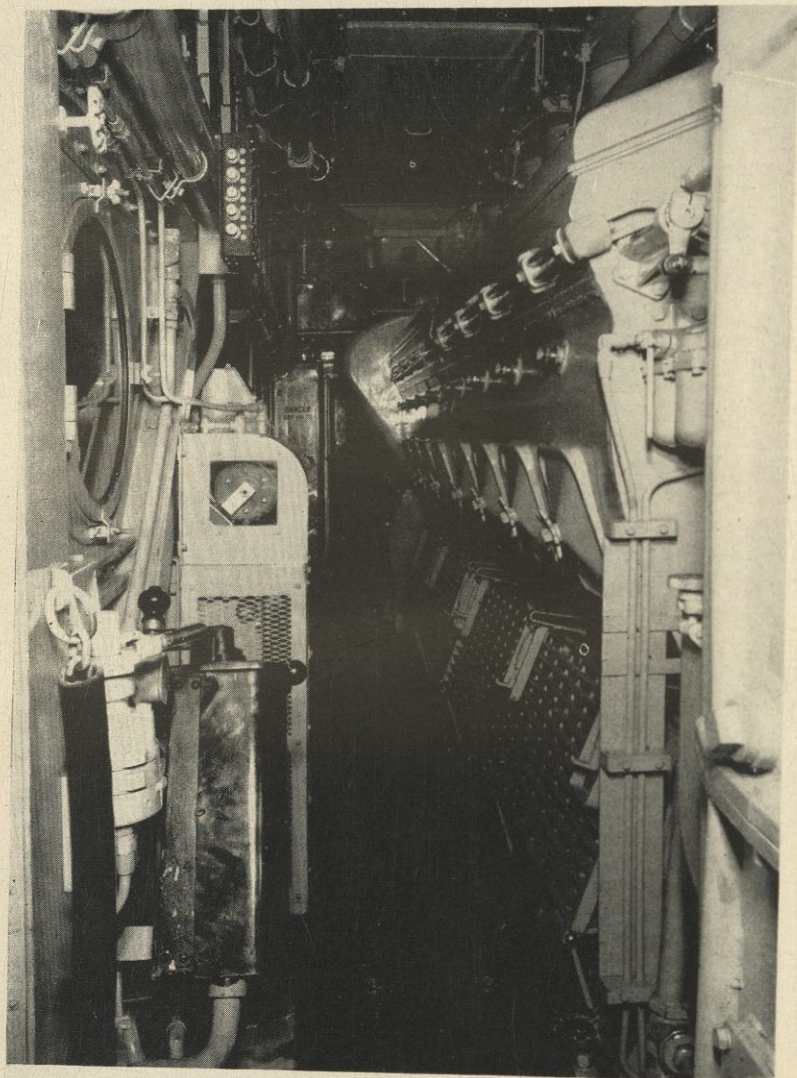
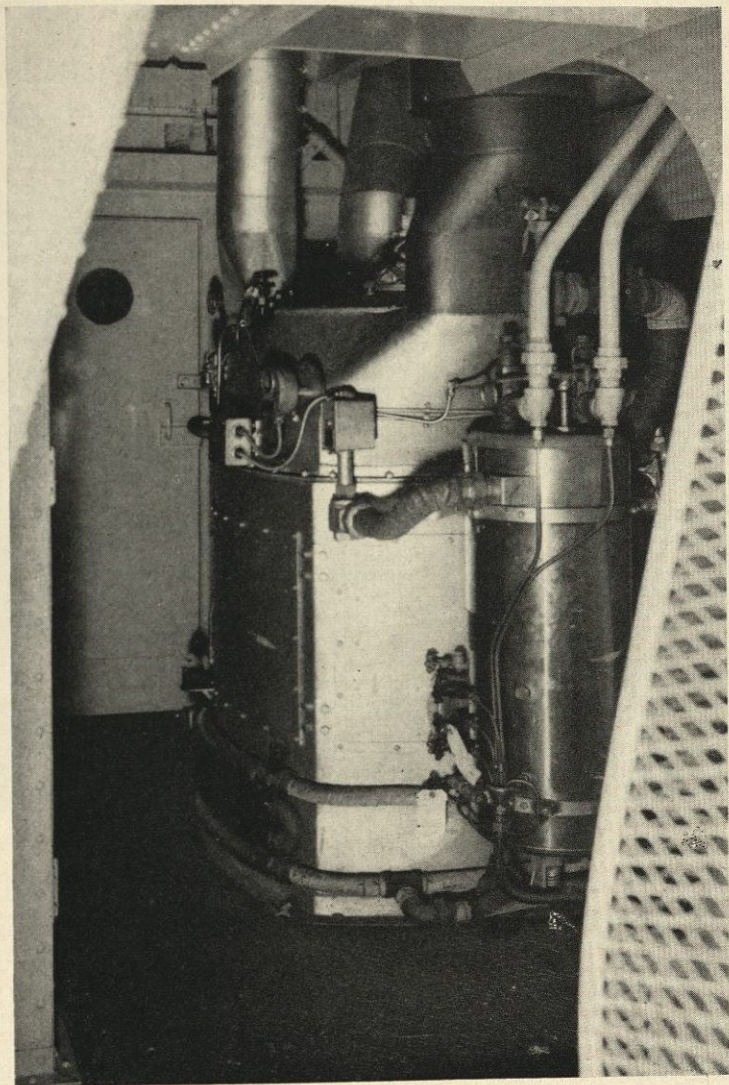

Fig. 13
Fig. 14
11. There are a number of auxiliaries on a Diesel locomotive. One is an oil-fired boiler (Fig. 14) which generates steam for heating passenger trains. This is required in the absence of the usual steam locomotive boiler and because it is impractical at present to heat trains of mixed equipment electrically. Other auxiliaries are the sander, bell ringer, windshield wiper, storage battery for starting the engine, train control apparatus, headlight, various control and lighting circuits, etc.
course, is on the left side of the aisle. The case at the end of the aisle is the low voltage electrical cabinet. Fig. 13 is a view taken rearward from a point between the door and the water tank of the same side of the "B" unit. Of particular interest is the hostler's control station which consists of a small controller, a brake valve, and the necessary switches, bell ringer, whistle, etc. The load regulator is just beyond the control station. The high voltage cabinet is at the end of the aisle. The knurled knobs along the side of the engine are the cylinder test valves. Fig. 14 is a view taken looking toward the rear